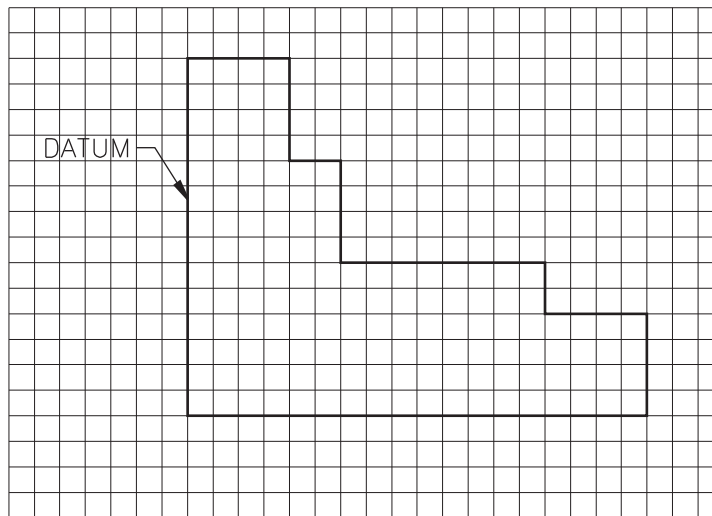

Fig. 28-10
- As the set designer for a theatrical company, you are creating a template for a cityscape. The director has given you a sketch of the general building landscape she would like (Fig. 28-10). Draw the template and dimension it from the datum plane. Each square equals 9 inches. Save and plot the drawing using the **Extents** plotting option.